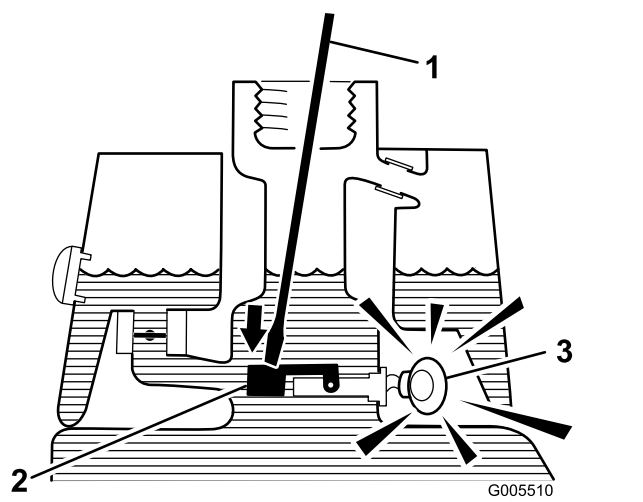

Figure 26
3. Insert a clean rod or screwdriver into the tank neck and gently push down on the switch float (Figure 26). The alarm should sound after the one-second delay.